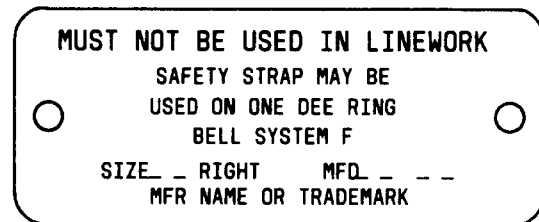

Fig. 4—Method of Using Safety Strap When Working From Ladder
3.12 When "belting in" with the safety strap, do not rely on the feel or click of the snap hook keeper as an indication that the snap hook is secured. See that the snap hook and Dee ring are properly engaged. The employee shall look and **know** that the snap hook is properly engaged before placing weight on the strap. Always have the keeper on the safety strap away from the body when engaged in the Dee ring (Fig. 4).
- (a) Between two rungs and around a siderail (Fig. 4), or